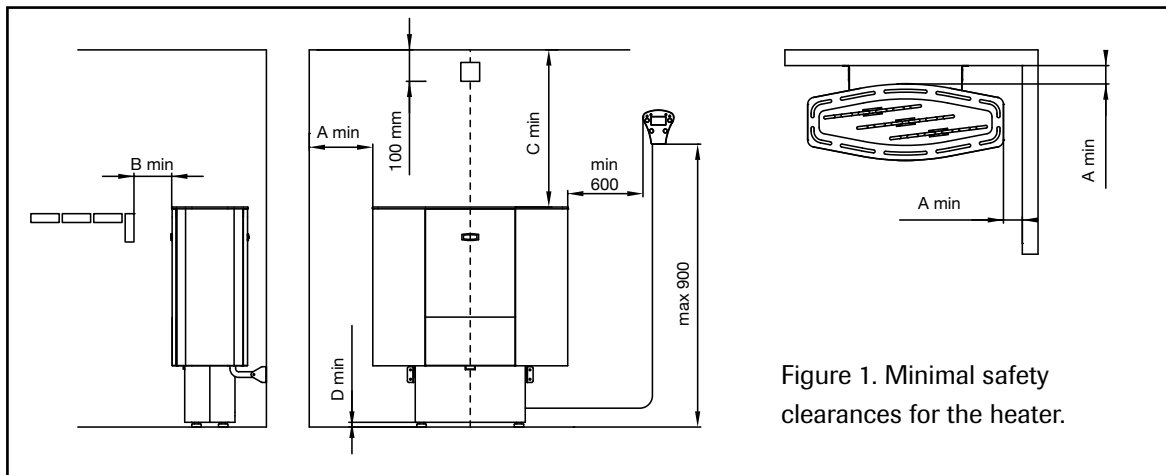

Figure 1. Minimal safety clearances for the heater.
\*\*) See figure 1
- Install temperature sensor to the wall, above the sauna heater so it is located 100mm below the ceiling. (see Fig. 1)
- The installation height of the control unit is a maximum of 90 cm and a minimum of 60 cm from the side of the heater (see Fig. 1).